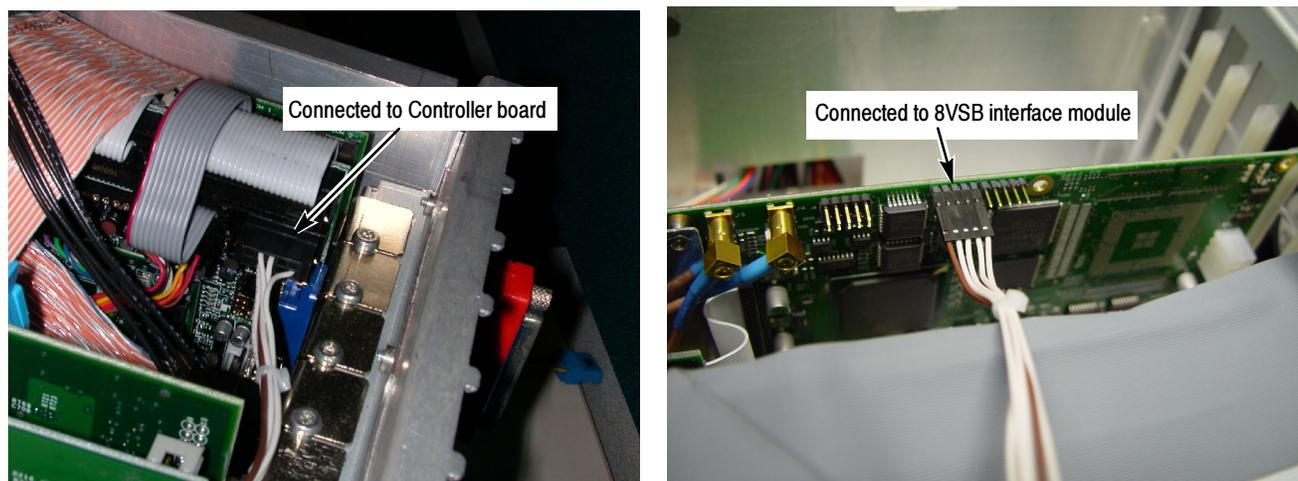

Figure 20: Reconnecting the 8VSB interface cable
20. Reconnect the interface cable to the 8VSB interface module (see Figure 20).